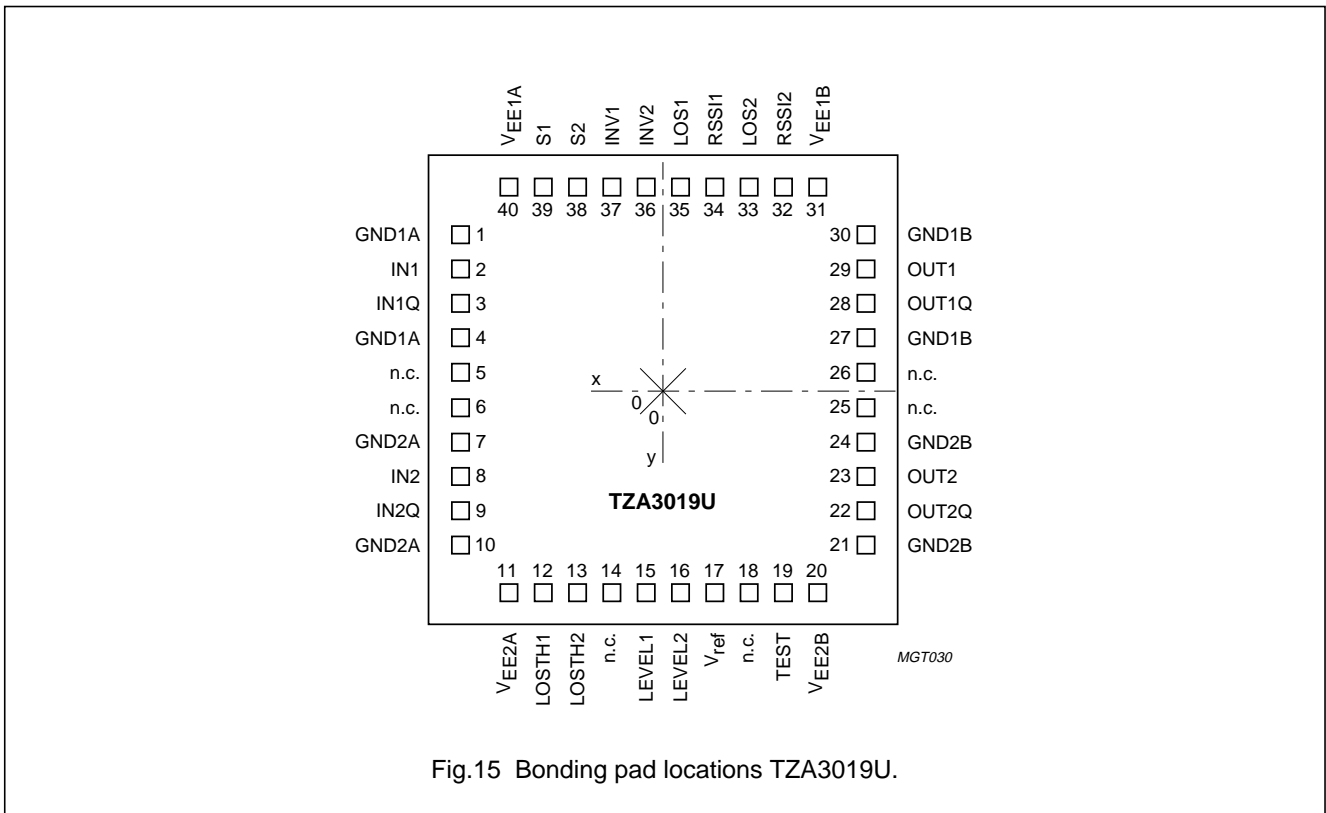

Fig.15 Bonding pad locations TZA3019U.
1. All x and y coordinates represent the position of the centre of the pad in μm with respect to the centre of the die (see Fig.15)